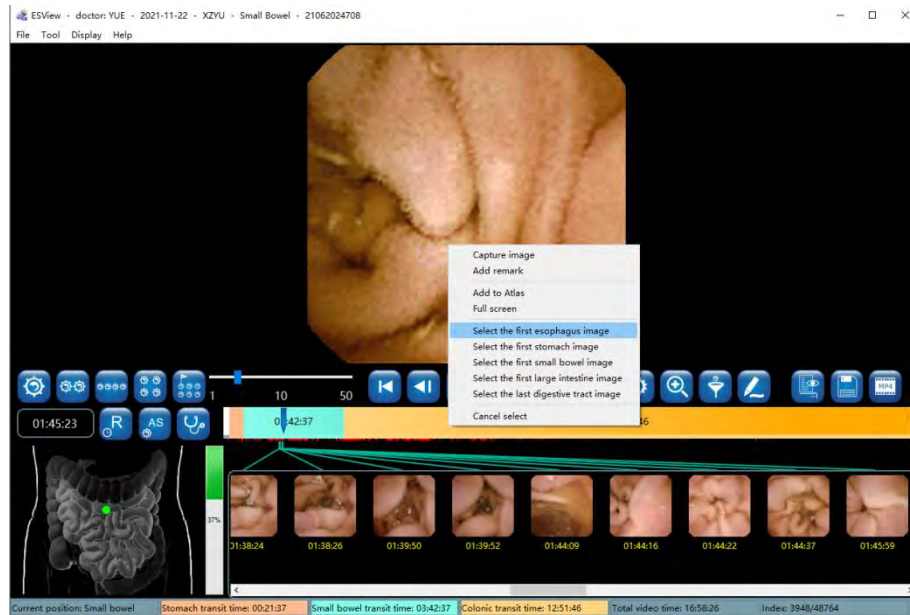

Figure 4-20: Image Tagging
- Move the mouse over the image to be tagged and right click on the image. In the pop-up menu (Figure 4-20), select “Select the first esophagus image”, “Select the first stomach image”, “Select the first small intestine image”, “Select the first large intestine image”, or “Select the last digestive tract image” to tag the image as a landmark of the digestive tract. When an image is tagged, the colors in the progress bar will change automatically according to the position of the tagged image, separating the images by different sites of the digestive tract. The information in the status bar also changes automatically. The tagged images will appear in the bottom thumbnail area